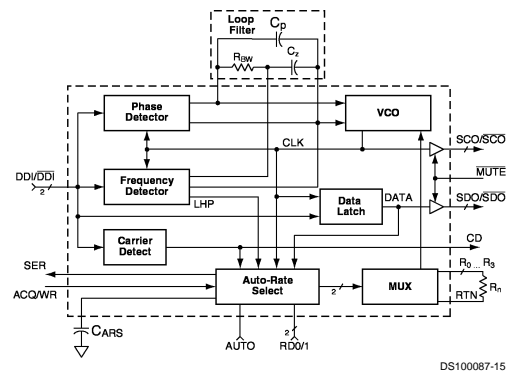

FIGURE 3. Functional Block Diagram
The CLC016 Data Retiming PLL, *Figure 3*, has three main functions: Frequency Detector (FD), Phase-Locked Loop (PLL) and Auto-Rate Select (ARS).
The external Loop Filter shown in *Figure 3* is made up of passive components R_{BW} , C_Z , and C_P . This external loop filter controls the PLL dynamics and acquisition time.